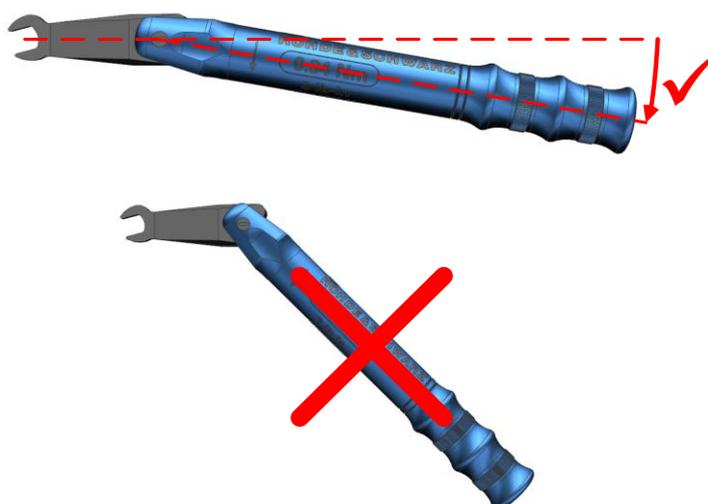

Fig. 4-8: Correct torque setting (*top*). Too far (*bottom*)
5. The correct torque is reached when the torque wrench “breaks” as shown in Fig. 4-8. Additional force beyond this limit should not be applied.